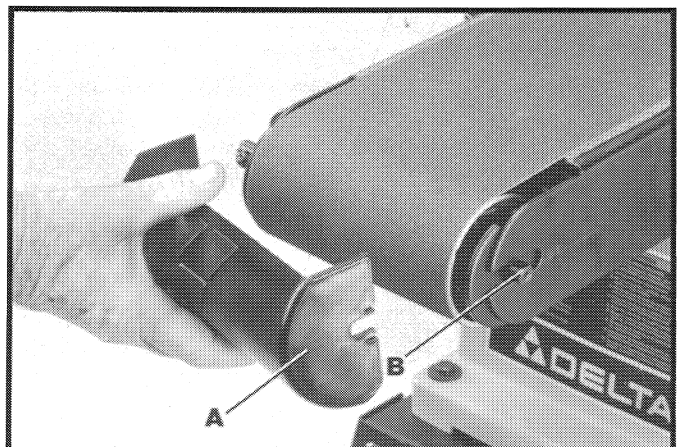

Fig. 39
The upper sanding drum guard (A) Fig. 39, can be removed easily, if necessary, when sanding inside curved work on the idler drum or changing belts.
1. Simply pull outward on guard (A).
2. After sanding operation is completed or belt changed, replace guard (A) Fig. 39, on two studs (B), one of which is shown.